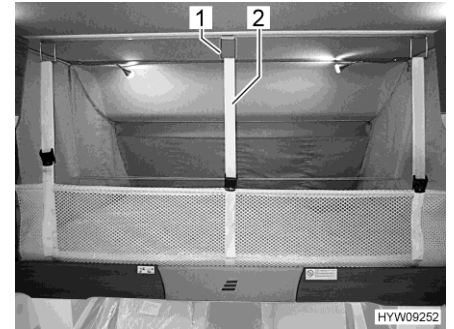

Fig. 107 Safety net (pull-down bed)
- Release retaining belts (Fig. 107,2) and place safety net underneath mattress.
- Attach the retaining belts (Fig. 107,2) to the hooks (Fig. 107,1) on the ceiling.